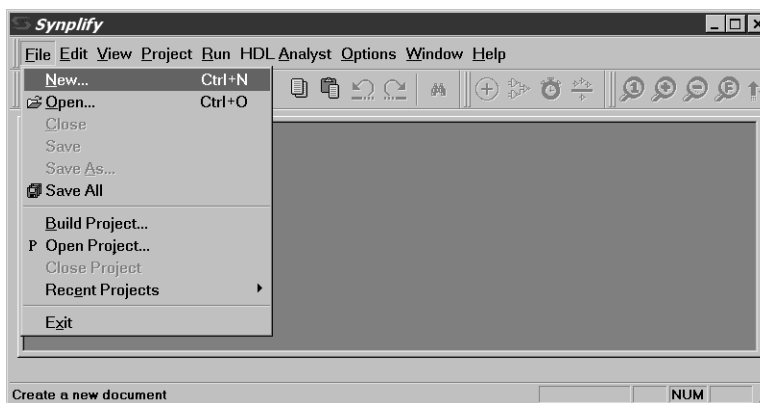

Figure 5-8: Create a New Document
1. Start Synplify and choose File > New (Figure 5-8), or use the new file icon on the toolbar. The Create a New Document dialog appears.